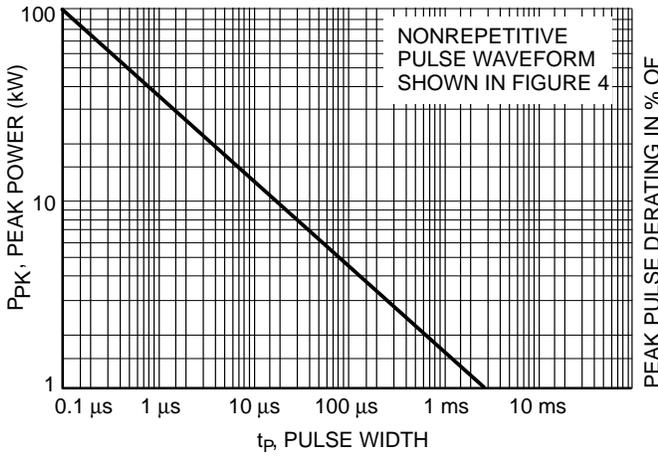
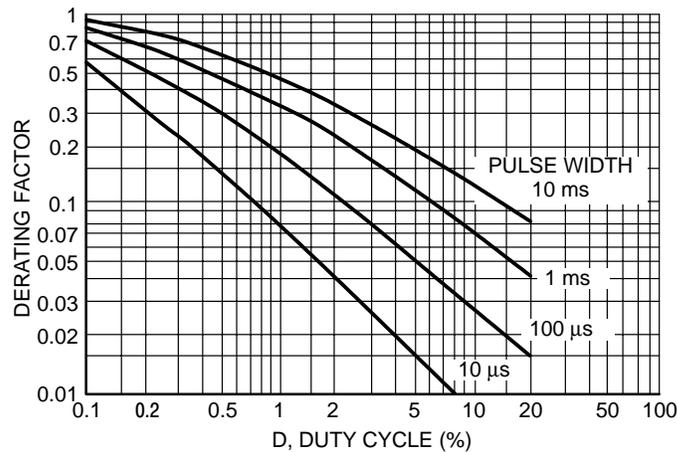

Figure 1. Pulse Rating Curve
Figure 6. Typical Derating Factor for Duty Cycle
3. Surge current waveform per Figure 4 and derate per Figures 1 and 2.
The data of Figure 1 applies for non-repetitive conditions and at a lead temperature of 25°C. If the duty cycle increases, the peak power must be reduced as indicated by the curves of Figure 6. Average power must be derated as the lead or ambient temperature rises above 25°C. The average power derating curve normally given on data sheets may be normalized and used for this purpose.
At first glance the derating curves of Figure 6 appear to be in error as the 10 ms pulse has a higher derating factor than the 10 μs pulse. However, when the derating factor for a given pulse of Figure 6 is multiplied by the peak power value of Figure 1 for the same pulse, the results follow the expected trend.